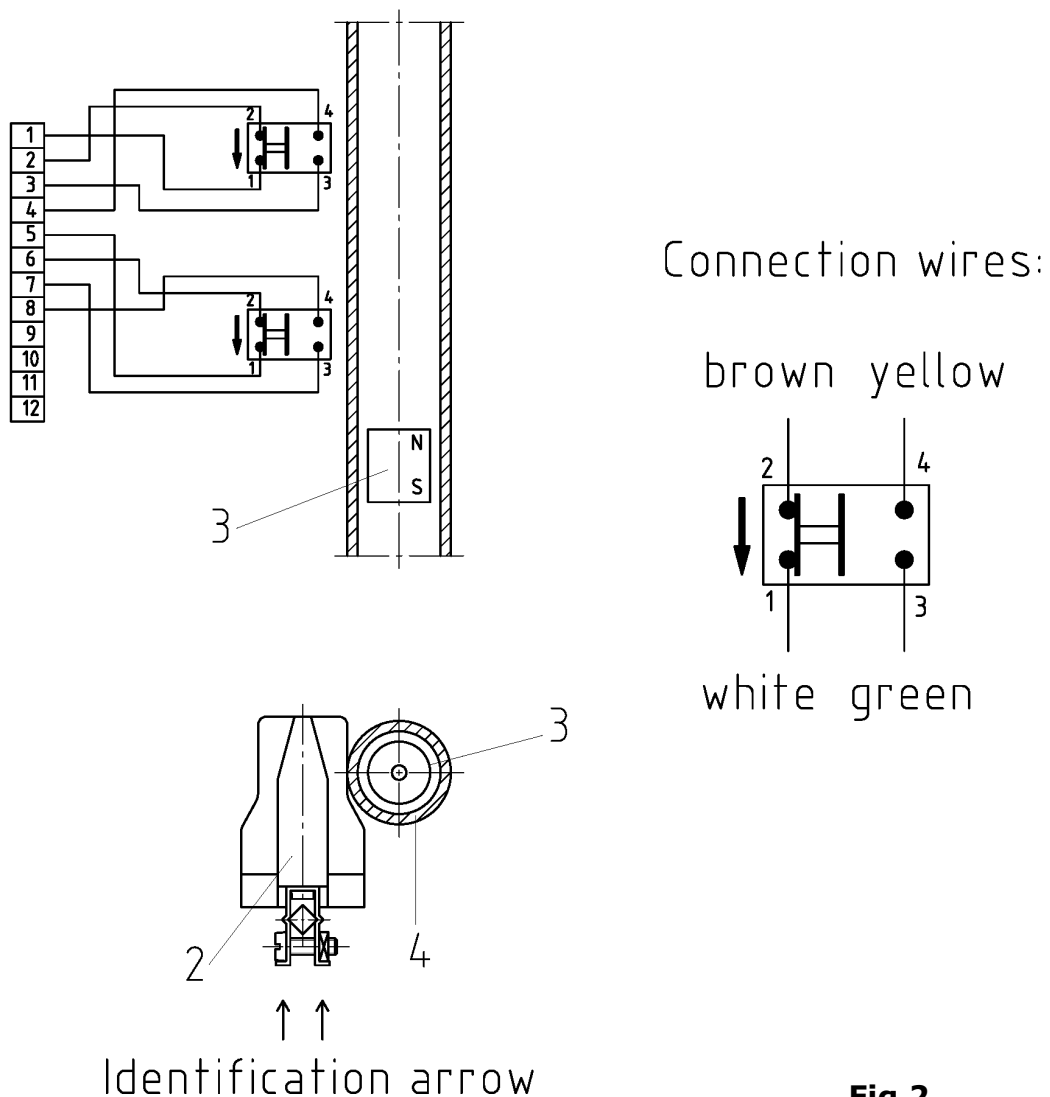

Fig.2
- Open switch housing (3) and remove foam cushions between transmitter tube (4) and magnetic switch(es) (2).
- The magnetic switches are already rigidly mounted inside of the switch housing and electrically connected to the terminals (see Fig.2).